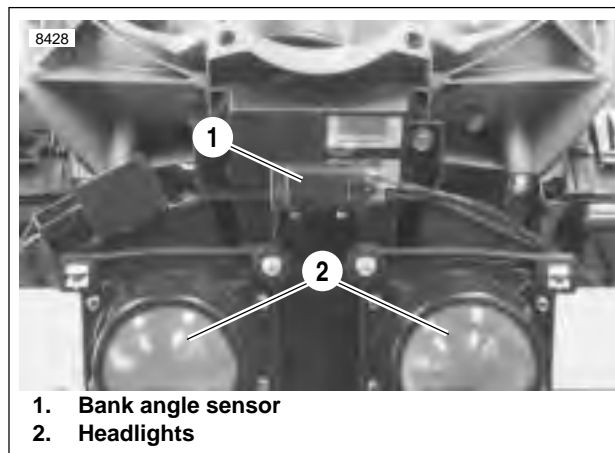

Figure 4-189. Bank Angle Sensor
3. See Figure 4-189. Unplug bank angle sensor connector [134].
5. See Figure 4-189. Install bank angle sensor connector [134].